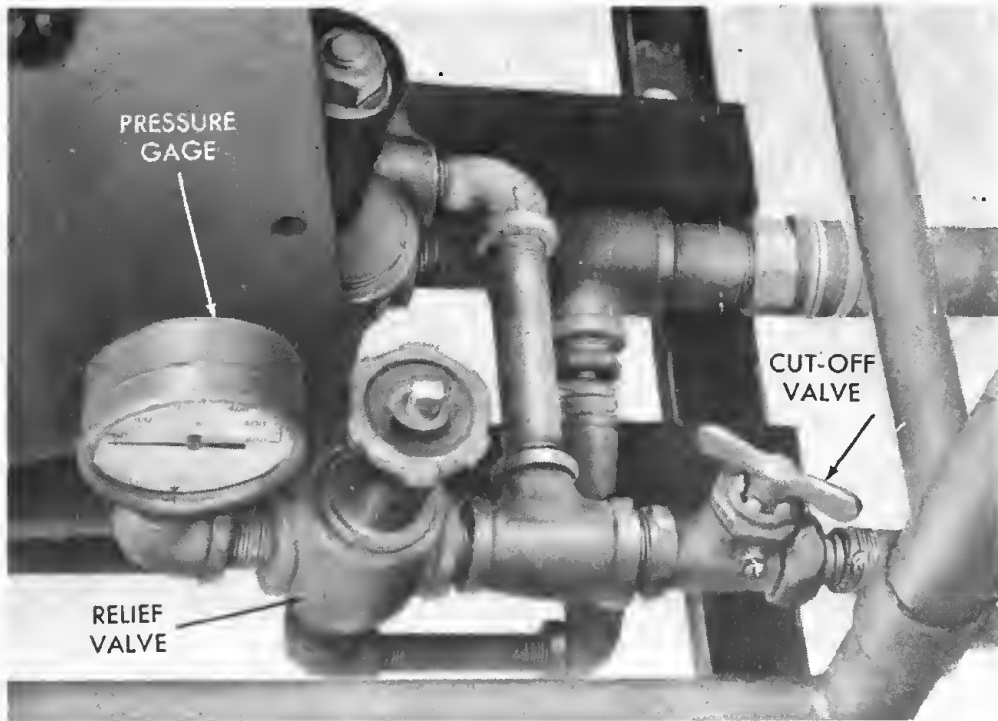

Figure 13—Relief Valve, Cut-Off Valve and Pressure Gauge
e. **Relief Valve.**—The relief valve (figure 13) is located adjacent to the pump, in the discharge or pressure line of the pump, and used for the purpose of automatically controlling the pressure of the equipment. For adjustment of the relief valve see paragraph 12 b. and d.
f. **Cut-Off Valve.**—The cut-off valve (figure 13) is located in the discharge line and is a means of stopping the flow of liquid to the spray gun.
The pressure gage (figure 13) is located in the pressure line between the discharge side of the pump and the relief valve. It is a dial indicator calibrated to 600 pounds and is used for the purpose of gaging the pressure out-put of the pump.